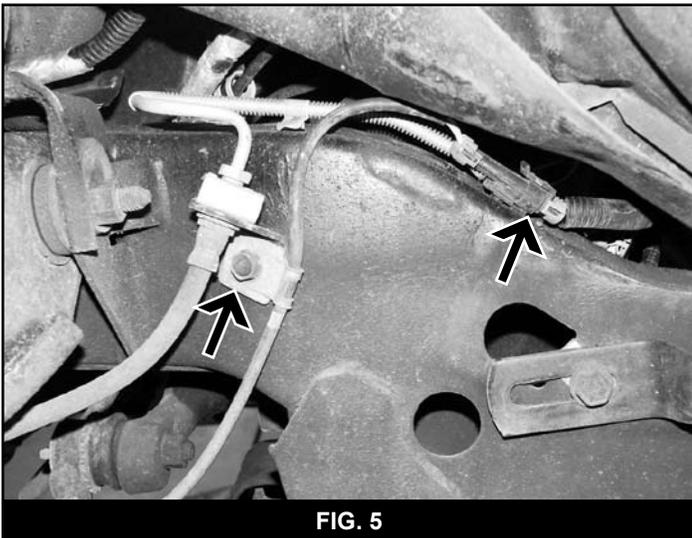

FIG. 5
14. Disconnect the ABS lead connector at the frame. Disconnect the ABS and brake line from frame. (Fig. 5)